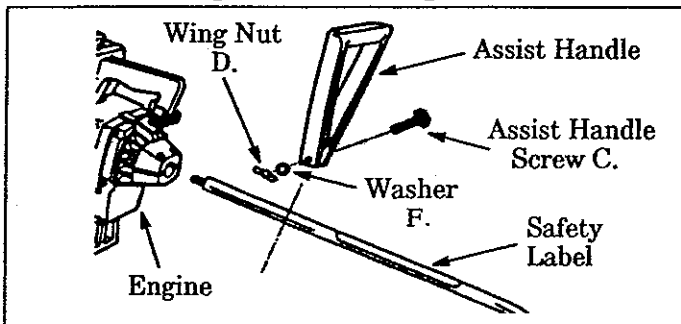

Figure 3
- Align the Assist Handle above the Safety Label and below the Engine. Figure 3 .
- Insert the Assist Handle Screw "C." through the screw hole in the Assist Handle. Figure 3 .